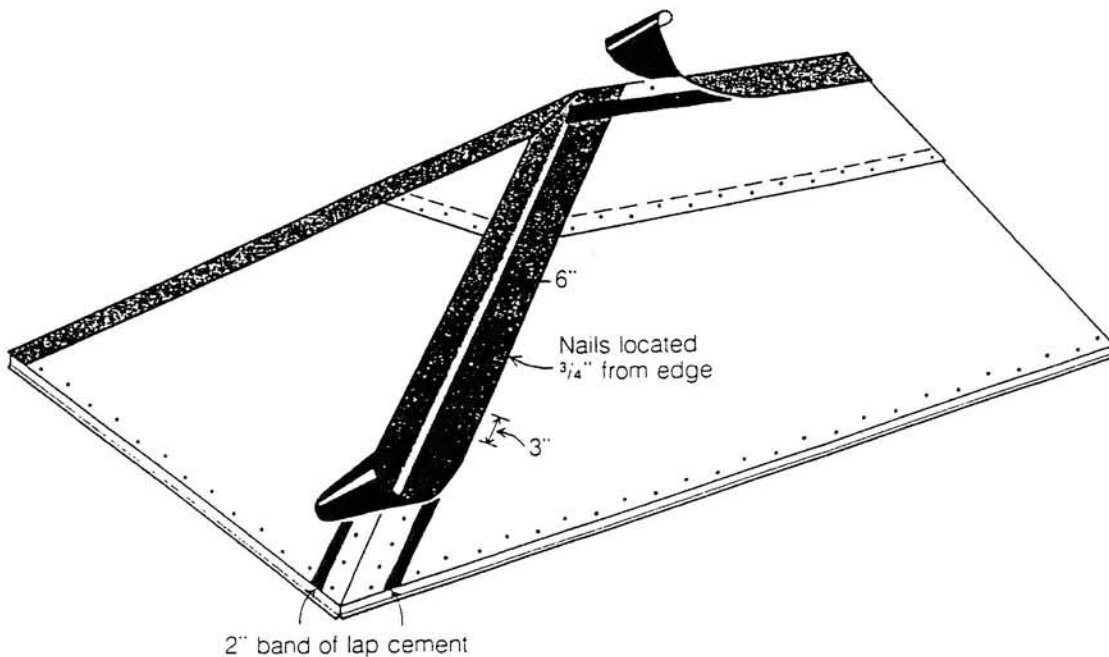

Figure 61: Exposed nail method of applying roll roofing to hips and ridges
**HIPS AND RIDGES** — Trim, butt and nail the roofing as it meets at a hip or ridge. Snap a chalk line on each side of the hip or ridge, located 5-1/2 inches from the joint and parallel to it. Starting at the chalk lines and working toward the joint, spread a 2-inch-wide band of asphalt lap cement on each side of the hip or ridge. See Figure 61.